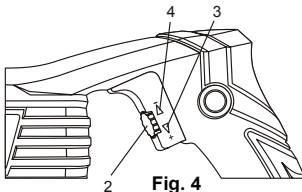

Fig. 4
The maximum speed of the saw can be controlled by the variable speed adjusting knob (2) (Fig 4).
- To allow the trigger to be fully depressed allowing the saw to operate at its fastest speed, rotate the variable speed control knob downward (3) as far as possible.
- To limit the amount the trigger can be depressed, and to control the maximum speed of the saw, rotate the variable speed adjusting knob upward (4).